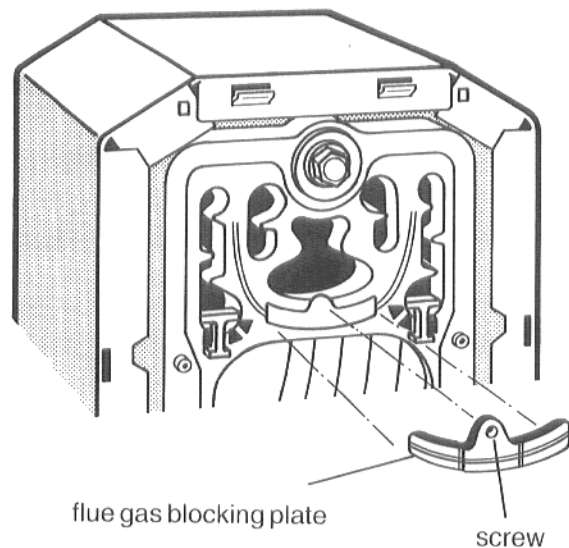

Fig. 30
- Remove the screw in the middle of the flue gas blocking plate (Fig. 30).